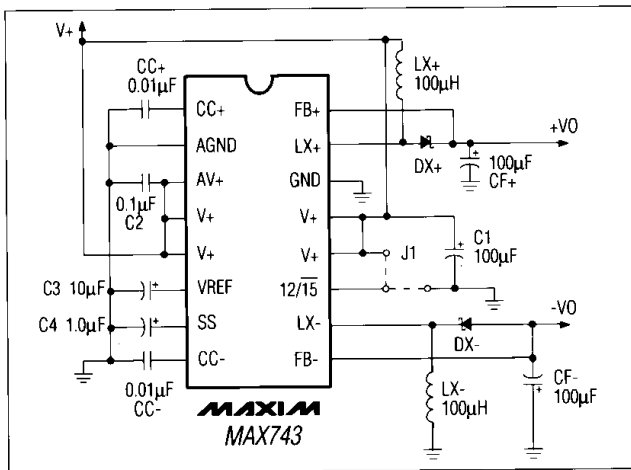
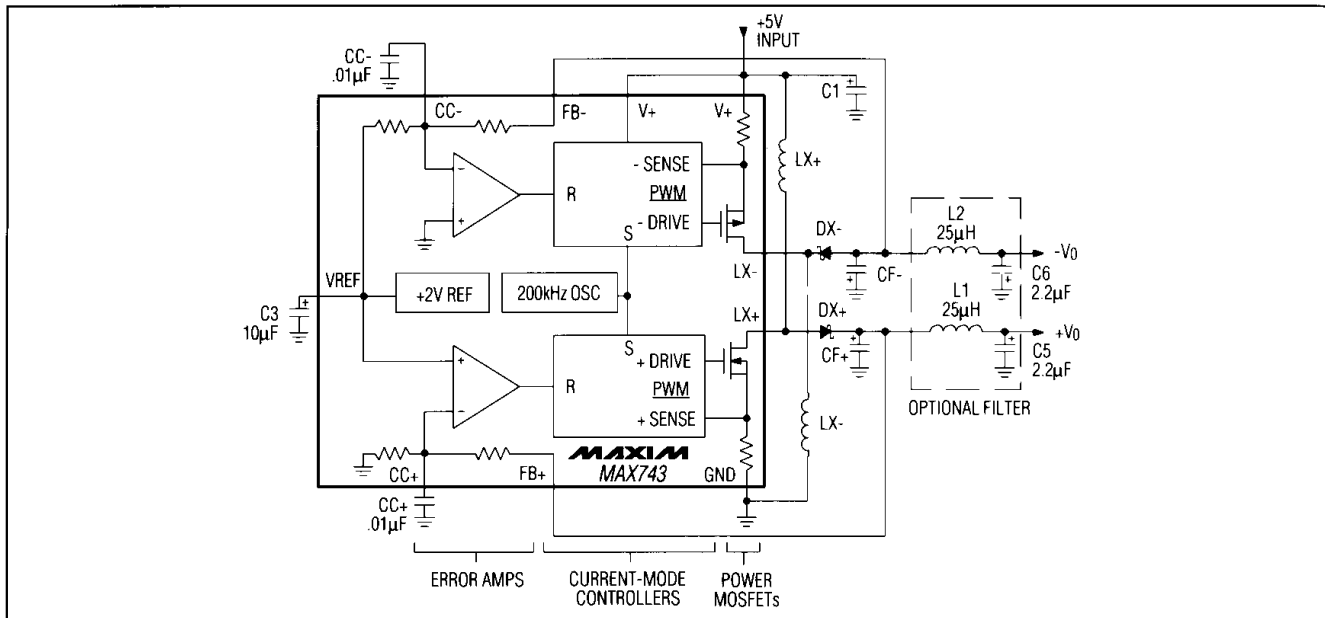
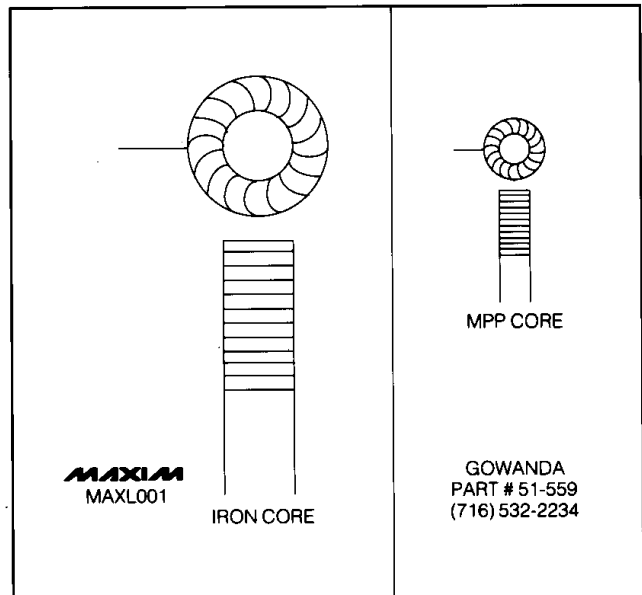
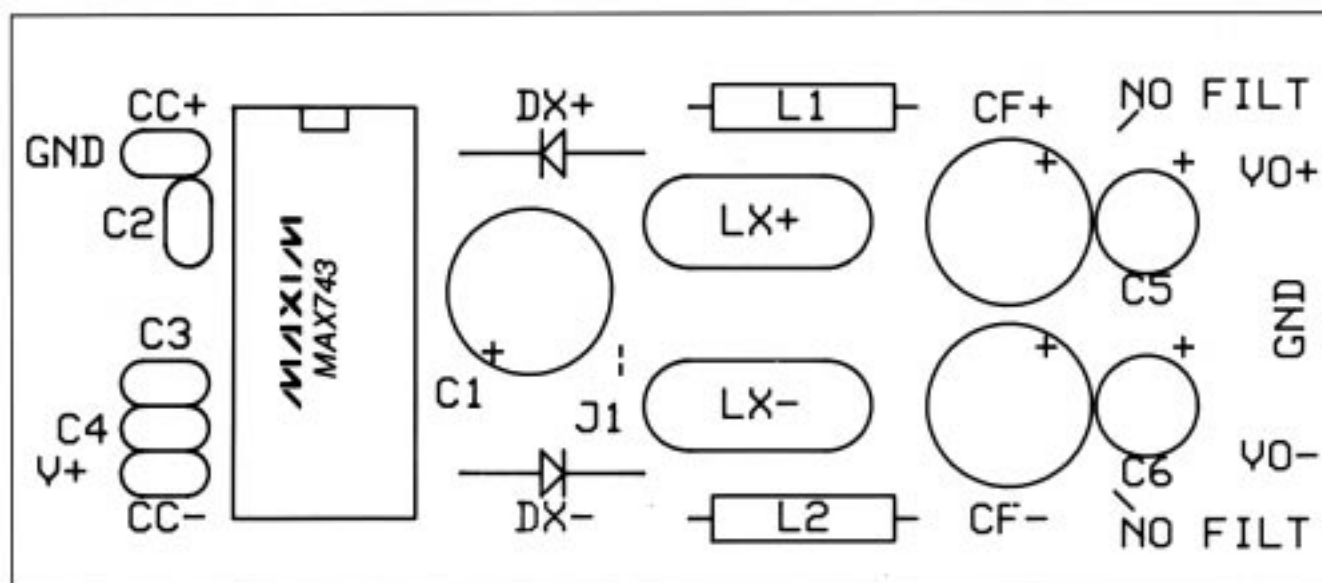

Figure 1. Basic Application Circuit
Figure 4. Functional Diagram with Optional Pi Filter
Figure 5. 100 $\mu$ H Low-EMI Inductors for 3W Supplies (Actual Sizes) (See Table 1)
Figure 7. Component Placement Diagram for PC Layout of Figure 6
(Circuit of Figure 1,  $+4.5V < V+ < +5.5V$ , Note1.)
(Circuit of Figure 1,  $V+ = +5.0V$ ,  $12/15$  pin =  $0V$ ,  $I_{LOAD} = 0$ ,  $T_A = T_{MIN}$  to  $T_{MAX}$ , unless otherwise noted.)
The circuit in Figure 1 has been tested at all line, load, output current, and temperature limits. Refer to the Electrical Characteristics table for guaranteed in-circuit specifications. Successful use of this circuit requires no component calculations.
The MAX743EVKIT Evaluation Kit demonstrates the output capabilities and noise performance of the MAX743 standard application circuit (Figure 1). The kit includes main switching components identical to those found in the high-volume production kit described on page 11 (MAX743CPEKIT). With a few quick modifications, the circuit can also serve as a low-noise test bed to evaluate other components, such as the miniature MPP toroid inductor of Figure 5. The kit includes optional Pi filters shown in the Functional Diagram (Figure 4), which reduce output noise to less than 2mVp-p.
**1. Build Circuit.** Assemble the PC board according to the component placement diagram of Figure 7 and the schematic of Figure 4. 3 resistors will be left over (and used for testing). The extra holes near LX and CF are options for nonstandard component sizes. Do not install jumper, J1, or C4.